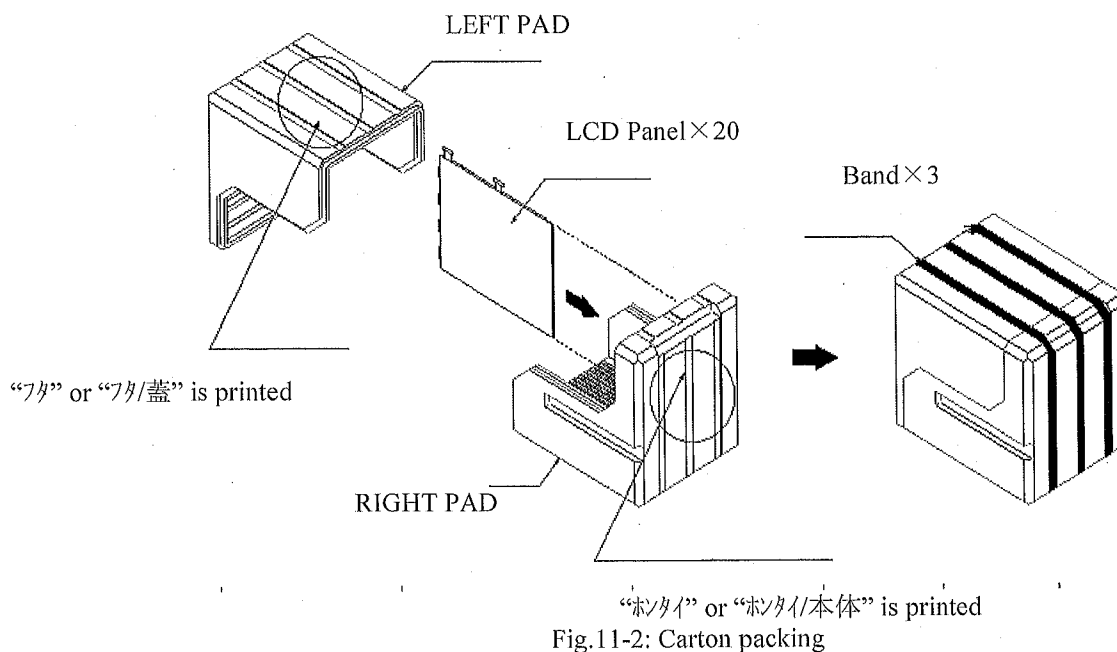

Fig.11-2: Carton packing
- c) Carton size : 432(W) x 633(D) x 384 (H) mm
- d) Packing form: Fig.11-2